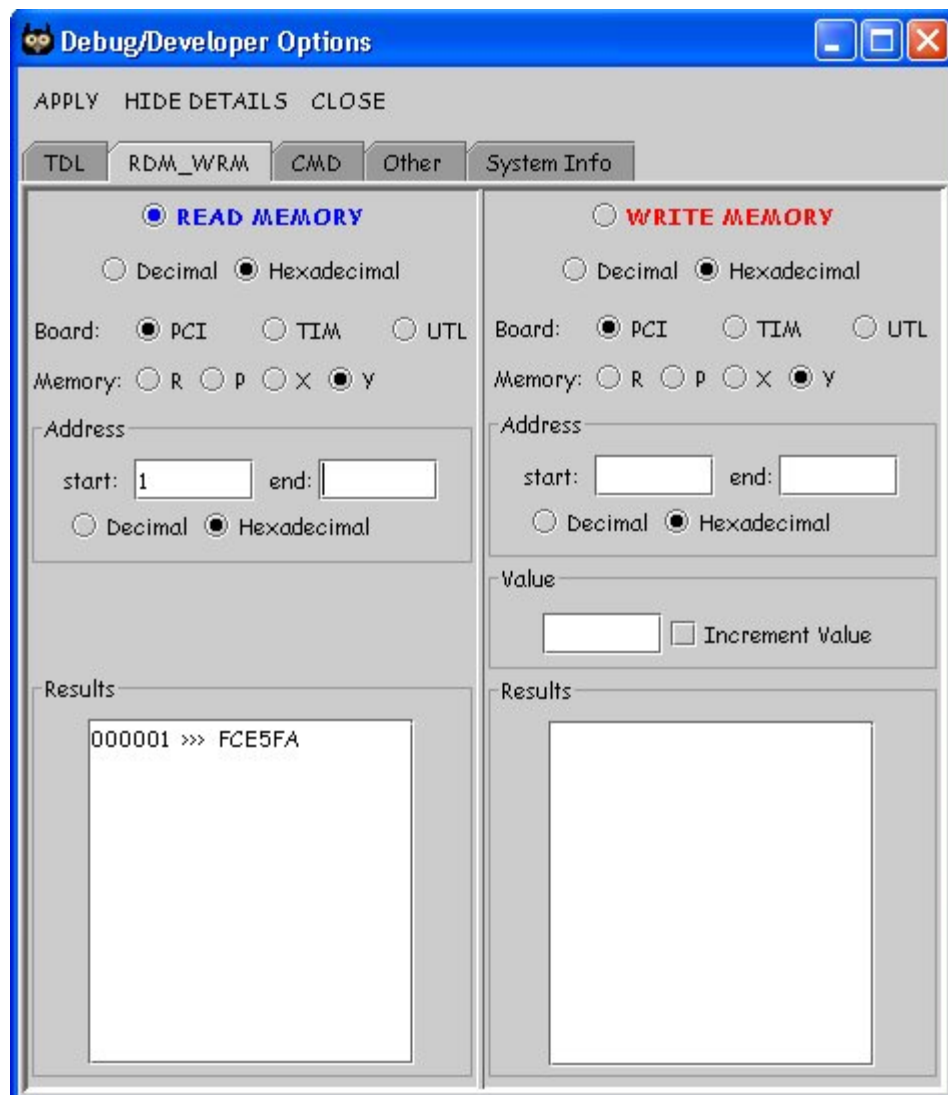

Figure 13. Read and write memory tab.
**RDM\_WRM** – This tab is used to read and write memory locations on the PCI, timing, or utility board. The *decimal/hexadecimal* option allows the input and output to be in the selected radix. Selecting this option will automatically change all values to the newly selected radix. The address section has its own radix option that allows the addresses to be input in a separate radix. Multiple or single addresses may be selected. The *memory* section allows R (ROM), P (program), X, and Y DSP memory spaces to be accessed. See figure 13. The resulting output is shown in the following form: